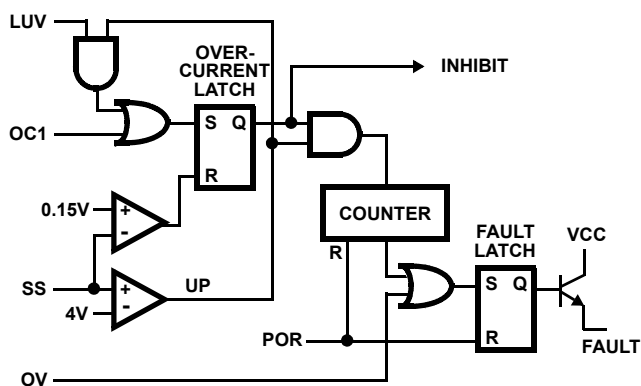

FIGURE 4. FAULT LOGIC - SIMPLIFIED SCHEMATIC
Figure 4 shows a simplified schematic of the fault logic. An over-voltage detected on VSEN1 immediately sets the fault latch. A sequence of three over-current fault signals also sets the fault latch. The over-current latch is set dependent upon the states of the over-current (OC), linear under-